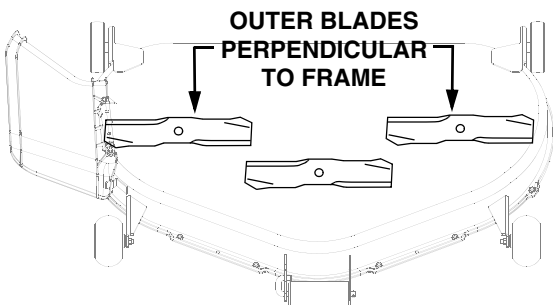

Figure 28
4. Carefully rotate the outer cutting blades so that they are positioned perpendicular to the tractor frame (See Figure 28).